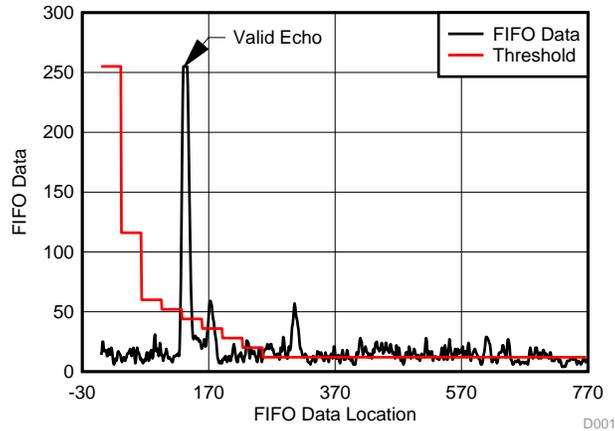

Figure 1. Example of a valid echo logged beyond the threshold
- Step 4. Echo data is stored in an external RAM of 768 bytes (FIFO_DATA from 0 to 767). A valid echo is determined by comparing the FIFO_DATA with the threshold level corresponding to the FIFO_DATA location. The threshold levels typically decrease as the FIFO_DATA location increases as nearer objects produce a stronger echo as compared to objects further away. **Figure 1** shows a valid echo compared to the decreasing threshold levels.